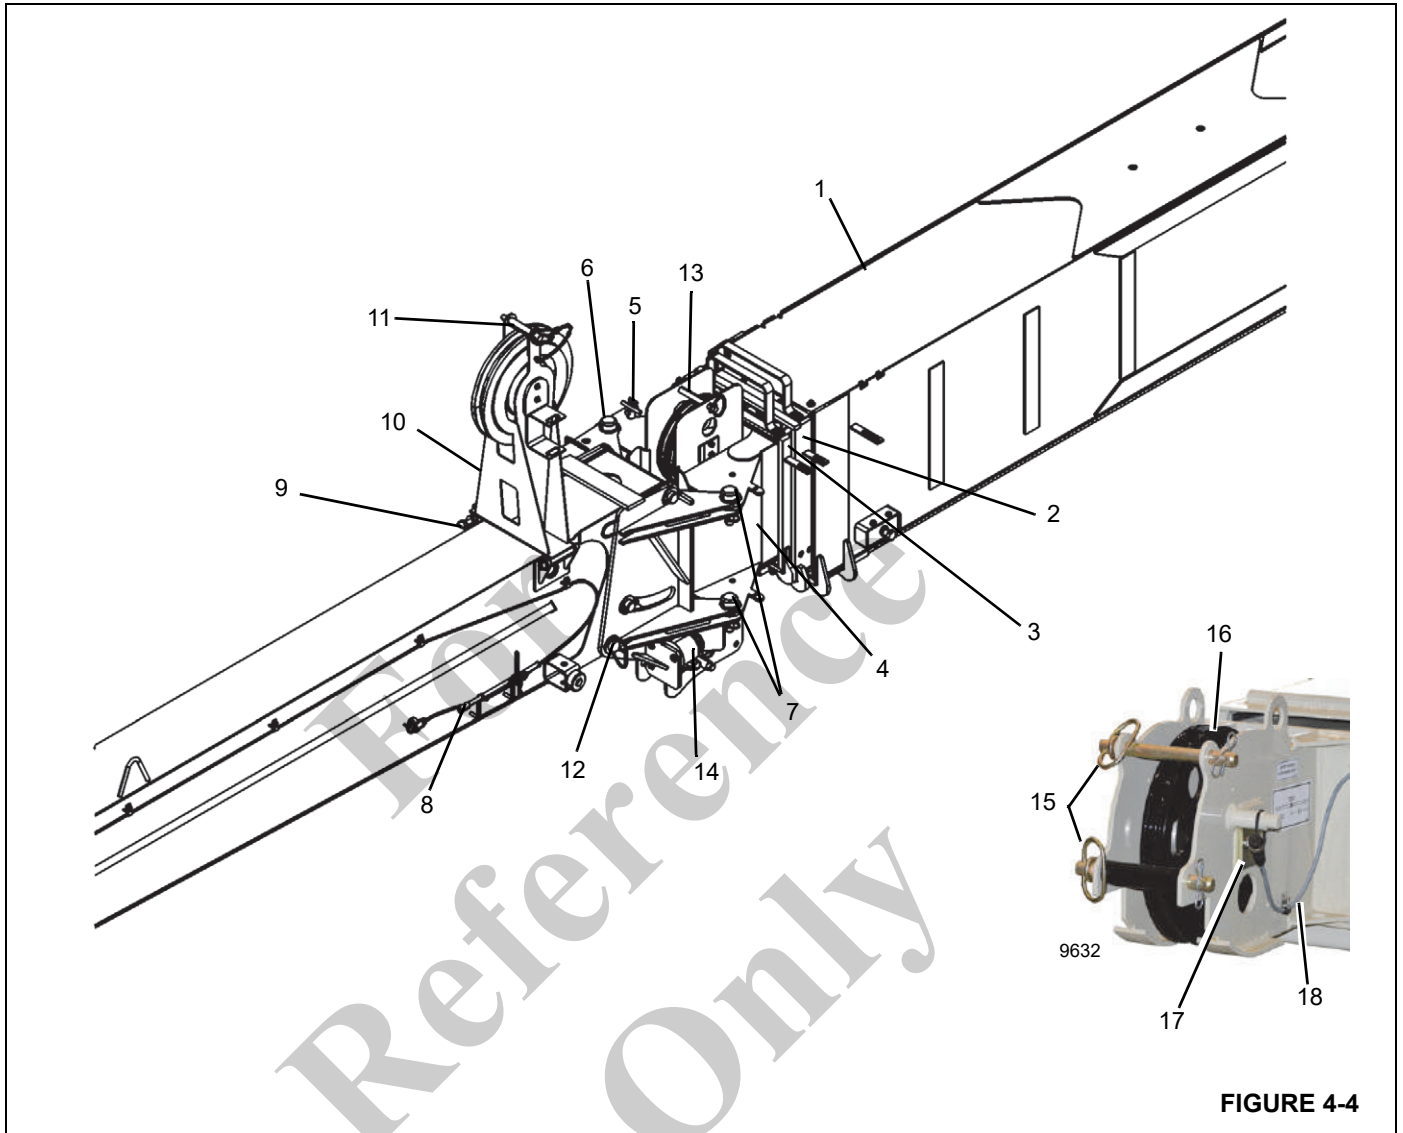

FIGURE 4-4
11. Using telescope function, slowly extend boom approximately 30 cm (12 in). This procedure will pull the jib out of the hook bracket (3).
13. Install upper left attachment pin (7) and spring clip. A slight hammer strike may be necessary to install pins. Always use proper eye protection during this step.
14. Use the alignment jack (10) to align lower left side attachment pin (7).
- a. Remove the jack handle (11) from the boom stowage bracket and check that the jack release valve is closed.
- b. Extend the alignment jack (10) so that the lower left pin holes (7) are aligned.
- c. Install the lower left side attachment pin (7) and spring clip.
- d. Open the jack release valve and retract the jack (10).
17. If not already done, remove mast assembly rope retainer (11, Figure 4-4). Remove rope retaining pins and lock pins (15) from the jib nose. Route loadline over mast assembly (10) and jib sheave (16) and install keeper (17). Install mast assembly rope retainer (11). Install the jib retaining pins using lock pins (15). Install line block to end of loadline.
23. Make ATB cable (Figure 4-4) connections as required.
6. Lower the mast assembly (10, Figure 4-4). Secure with retaining clip and pin. For more information, see *Setting the Offset Mast*, page 4-13.
8. Remove spring clips from left side attachment pins (7, Figure 4-3 and Figure 4-4) on both upper and lower jib lugs.
10. Remove left side attachment pins (7, Figure 4-3 and Figure 4-4) from upper and lower jib lugs. Do not remove right side attachment pins (6) at this time. The right side attachment pins (6) will be used as a pivot point to swing jib into stowed position. A slight hammer strike may be necessary to remove pins.
4. Attach rigging to the jib and lift the jib with an assist crane. With the assist crane supporting the jib, remove the right side attachment pins (6, Figure 4-4) in upper and lower jib lugs. Jib is now free of the boom.
1. Using lift function, lower boom so that right side attachment pins (6, Figure 4-4) are easily accessible from the ground.
2. Attach rigging to the jib and lift the jib with an assist crane. Position the jib at the boom nose so the right side attachment pins (6, Figure 4-4) can be installed to secure the jib to the boom nose.
3. Install right side attachment pins (6) in the upper and lower jib lugs. Secure the pins with retainer spring clips. The right side attachment pins are used as pivot points to swing the jib into stowed position. The jib is now attached to the boom and ready to stow.
The mast assembly (10, Figure 4-4) must be positioned on top of the base section before attempting to use the jib at 0 degree or 30 degree offset positions. Failure to do so can cause damage to the mast and/or jib adapter.
The mast assembly (10, Figure 4-4) must be positioned on top of the base section before attempting to use the jib at the 0, 15, or 30 degree offset positions. Failure to do so can cause damage to the mast and/or jib adapter.